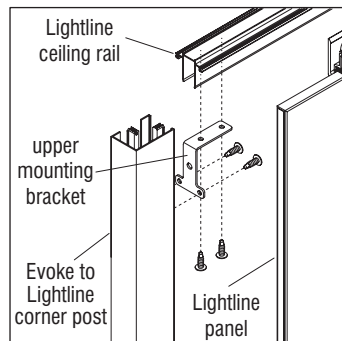

Figure 7
7. Post and panel installation (Evoke to Genius or Lightline) (Figure 7).